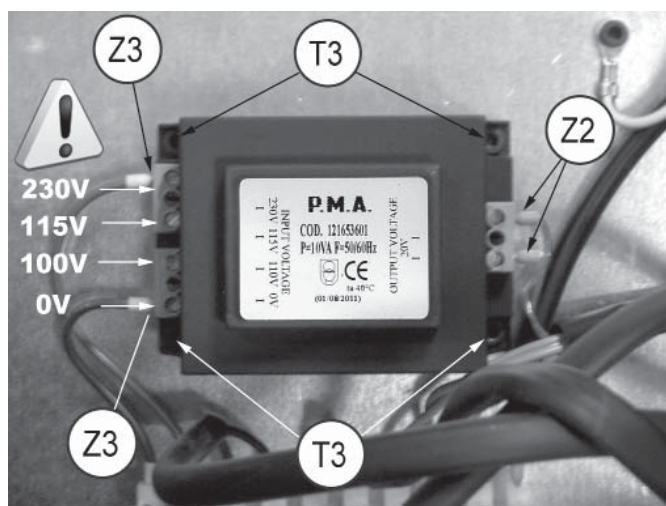

Fig. 73
- 3) Loosen the 2 screws (Z2) fixing the low voltage (transparent) cables (20V) (Fig. 73).
Take care that the position is correct according to the voltage (Fig. 73).